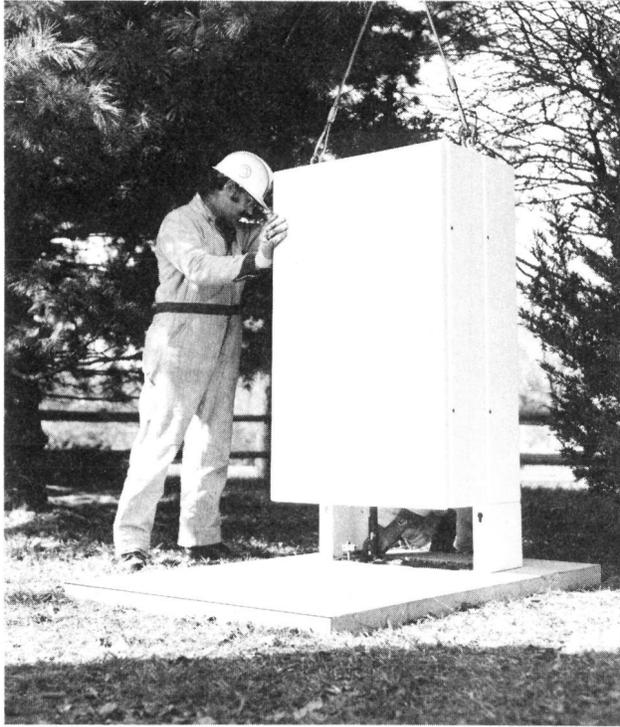

Fig. 13—Placing Cabinet on Concrete Pad
- 6.07** Position the cabinet on the concrete pad as shown in Fig. 13.